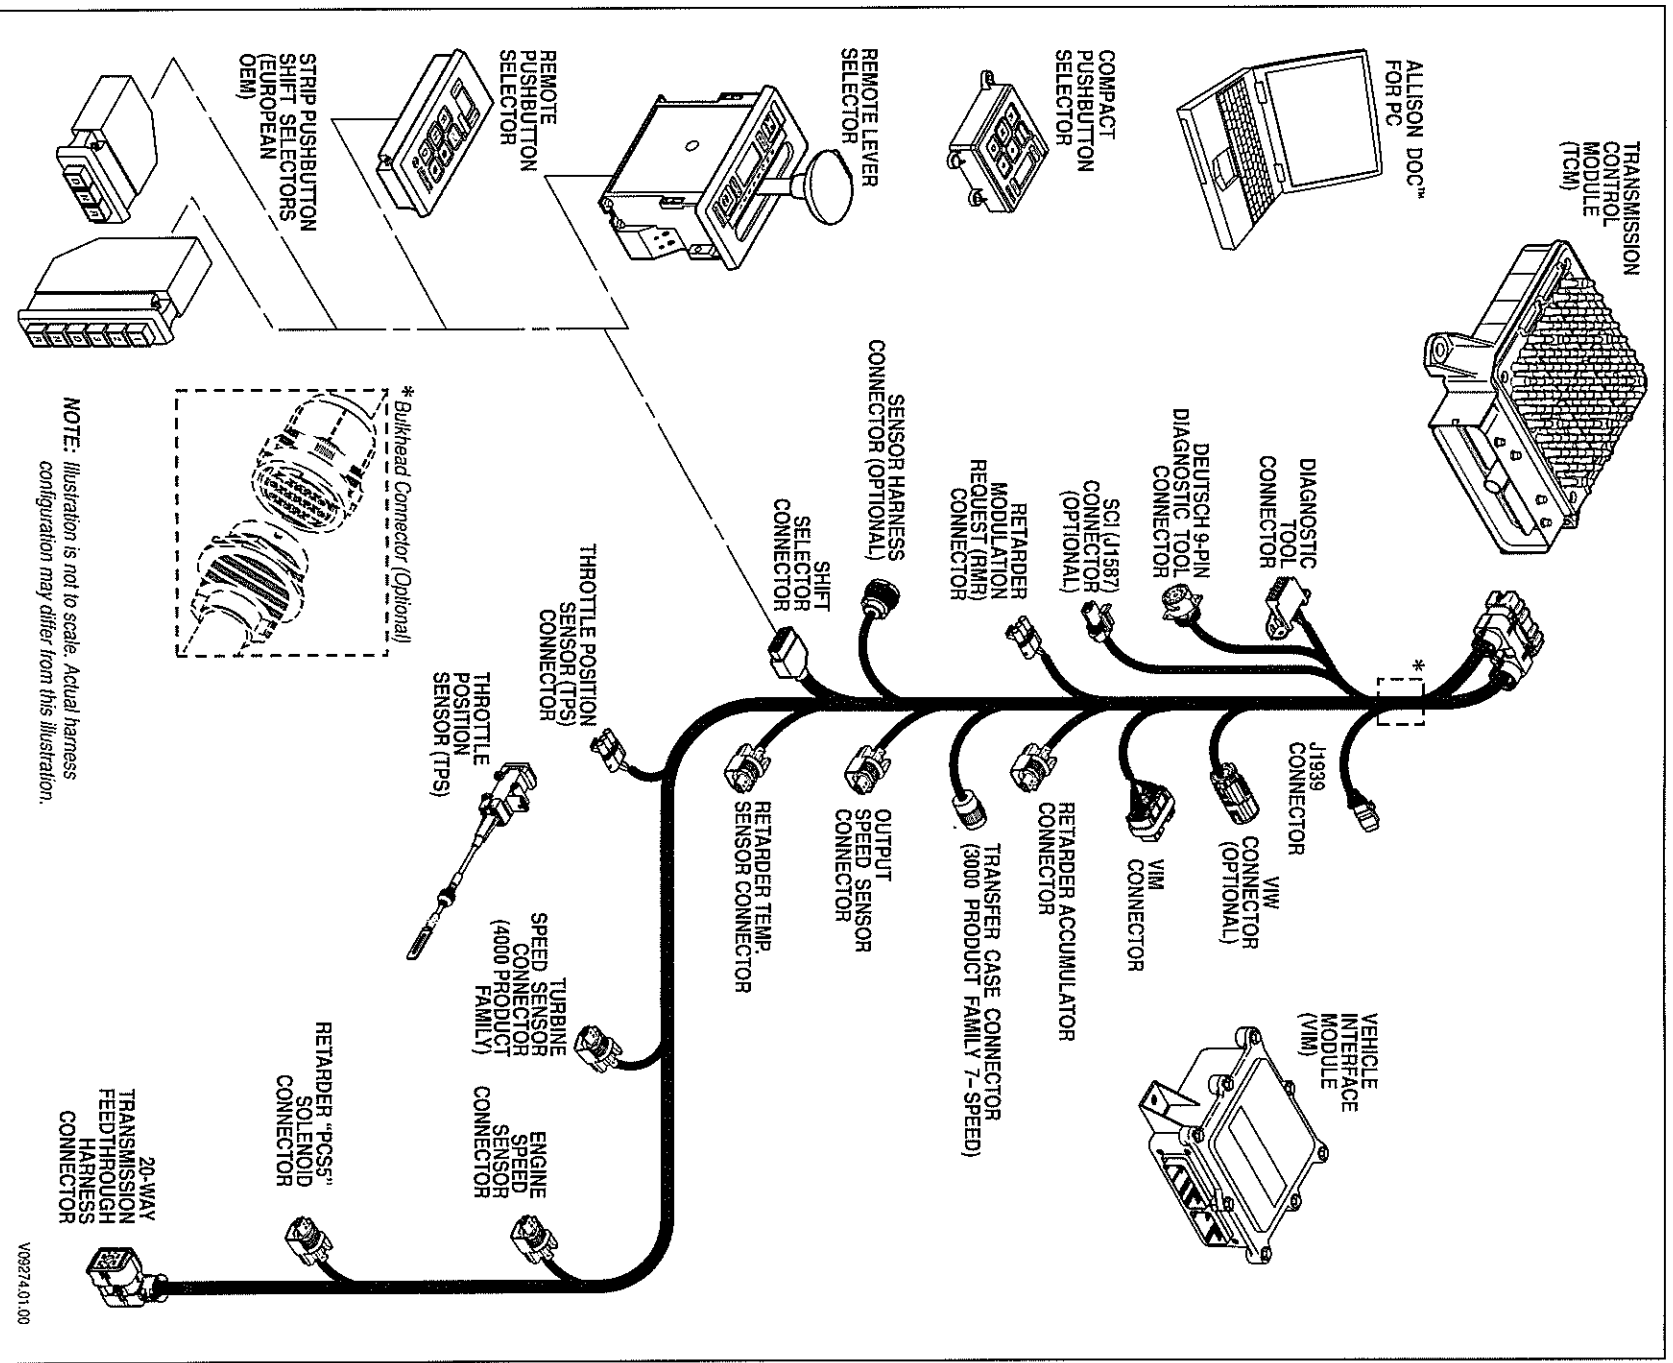

Figure 1-9. Typical 4th Generation Electronic Controls External Wiring Harnesses
A. External Wiring Harness (Figure 1-9)